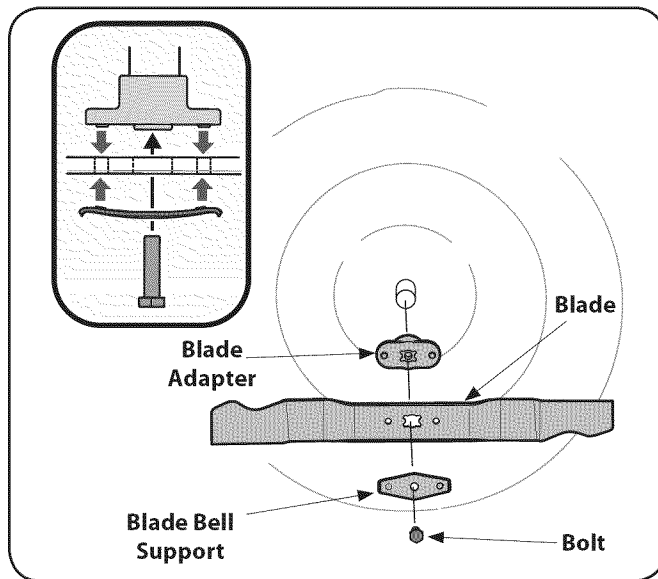

Figure 7-1
2. Remove the bolt and the blade bell support which hold the blade and the blade adapter to the engine crankshaft. See Figure 7-1.
3. Remove blade and adapter from the crankshaft. See Figure 7-1.
5. Lubricate the engine crankshaft and the inner surface of the blade adapter with light oil. Slide the blade adapter (and wave washer, if applicable) onto the engine crankshaft. Place the blade on the adapter such that the side of the blade marked "Bottom" (or with part number) faces the ground when the mower is in the operating position. Make sure that the blade is aligned and seated on the blade adapter flanges. See Figure 7-1 inset.